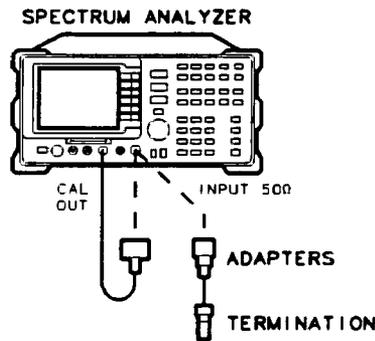

Figure 4-23. Reference Offset Test Setup
1. Connect a cable from the CAL OUT to the INPUT 50Ω of the HP 8592B as shown in Figure 4-23.